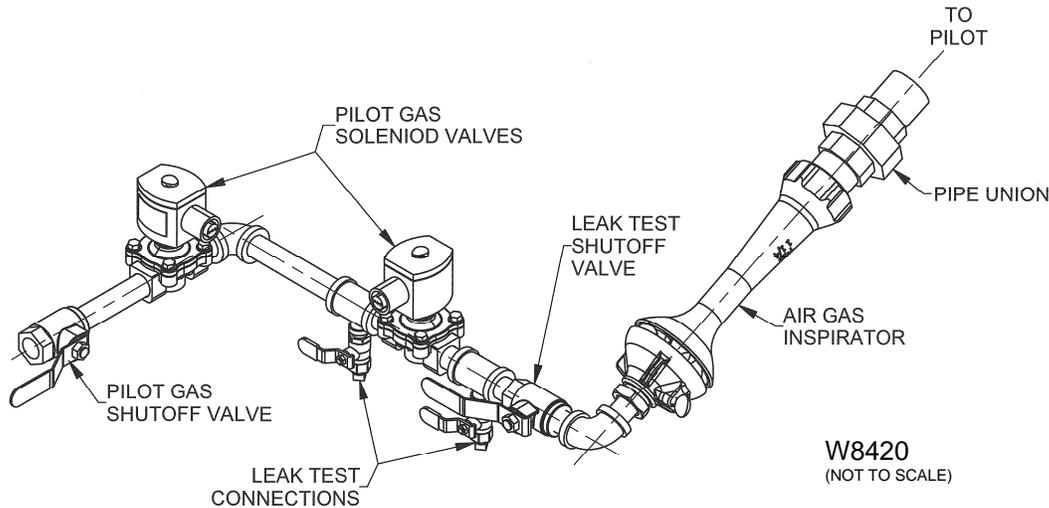

Figure 11. Gas Pilot Manifold
The NovaStar incorporates an air-inspirated gas pilot, manifold shown in Figure 11). The pilot and UV scanner are factory installed and wired. Under normal conditions, no re-positioning or realignment should be necessary. The pilot air is inspirated (drawn in) from the atmosphere, the air inspirator should be clear of any obstructions for proper functionality.
- A. Loosen and separate the pipe union, shown in Figure 11.
- H. Reconnect and tighten the pipe union, shown in Figure 11.
4. Complete the pilot adjustment as follows, referencing Figure 11: